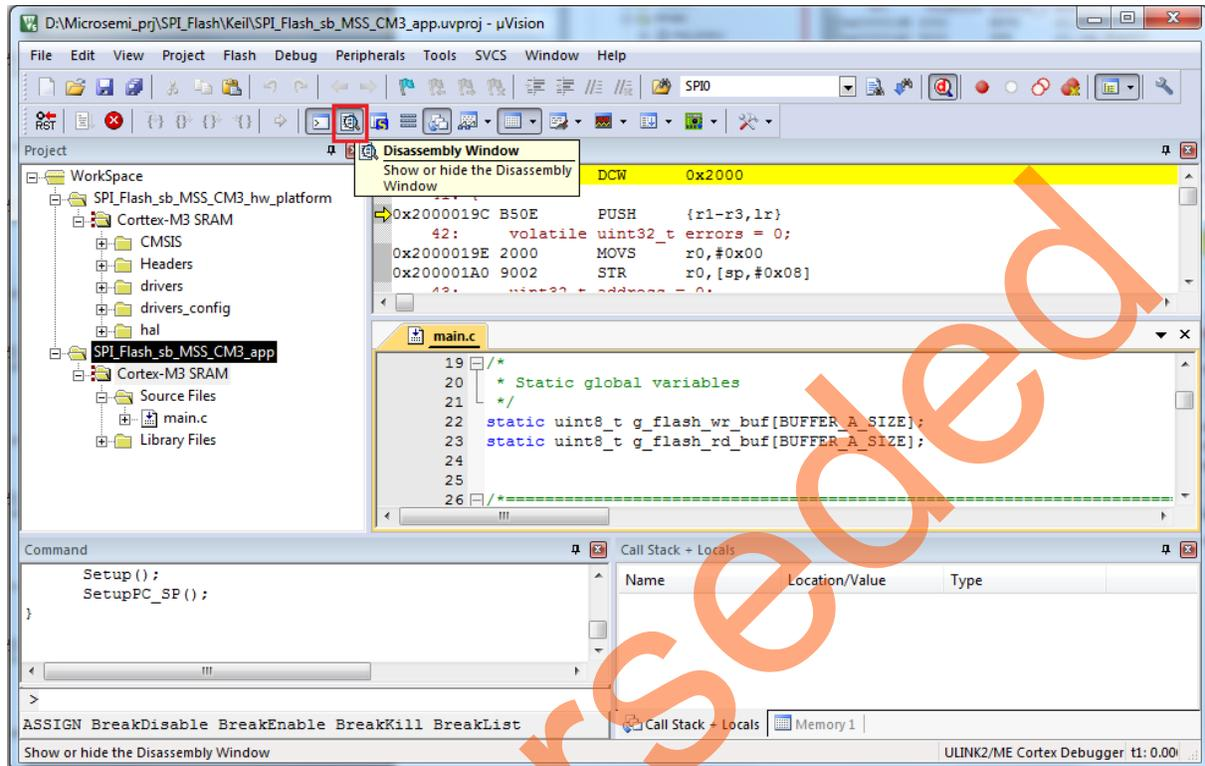

Figure 42 • Disassembly Window
The **Disassembly** window is displayed in the middle of the **Debug** section as shown in Figure 42. If not, click the **Disassembly** icon to display the **Disassembly** section.
- Click **Registers Window** to view the values of the ARM[®] Cortex[®]-M3 processor internal registers as shown in Figure 42.